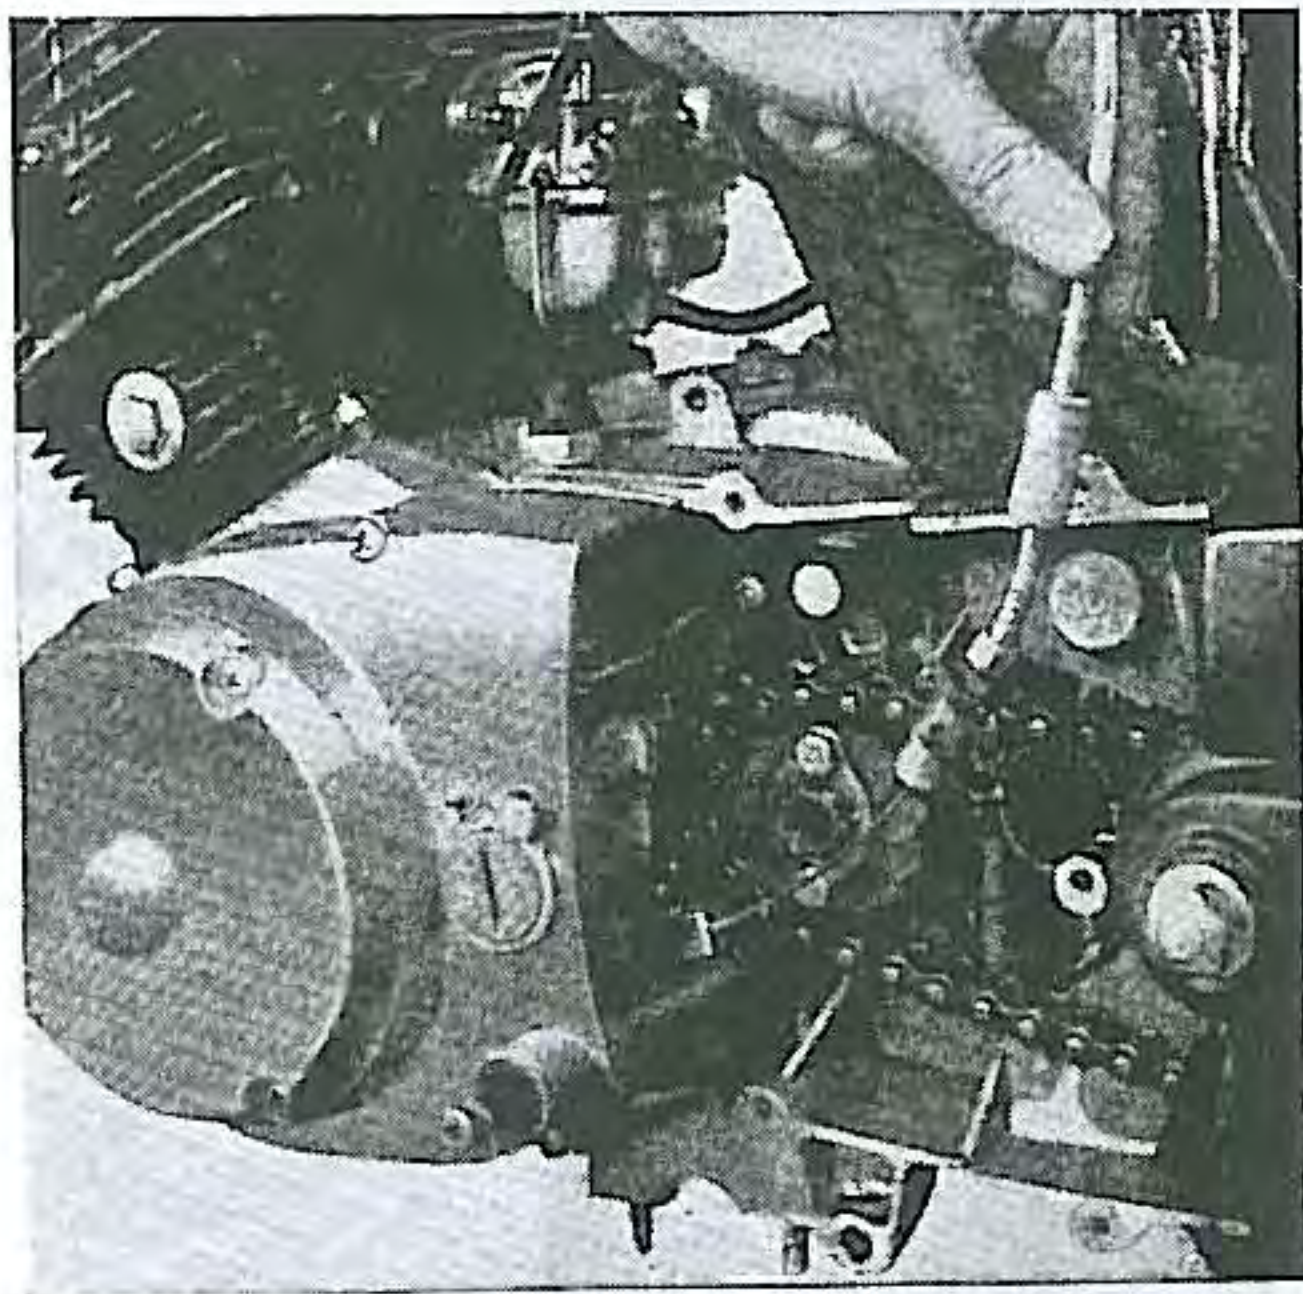
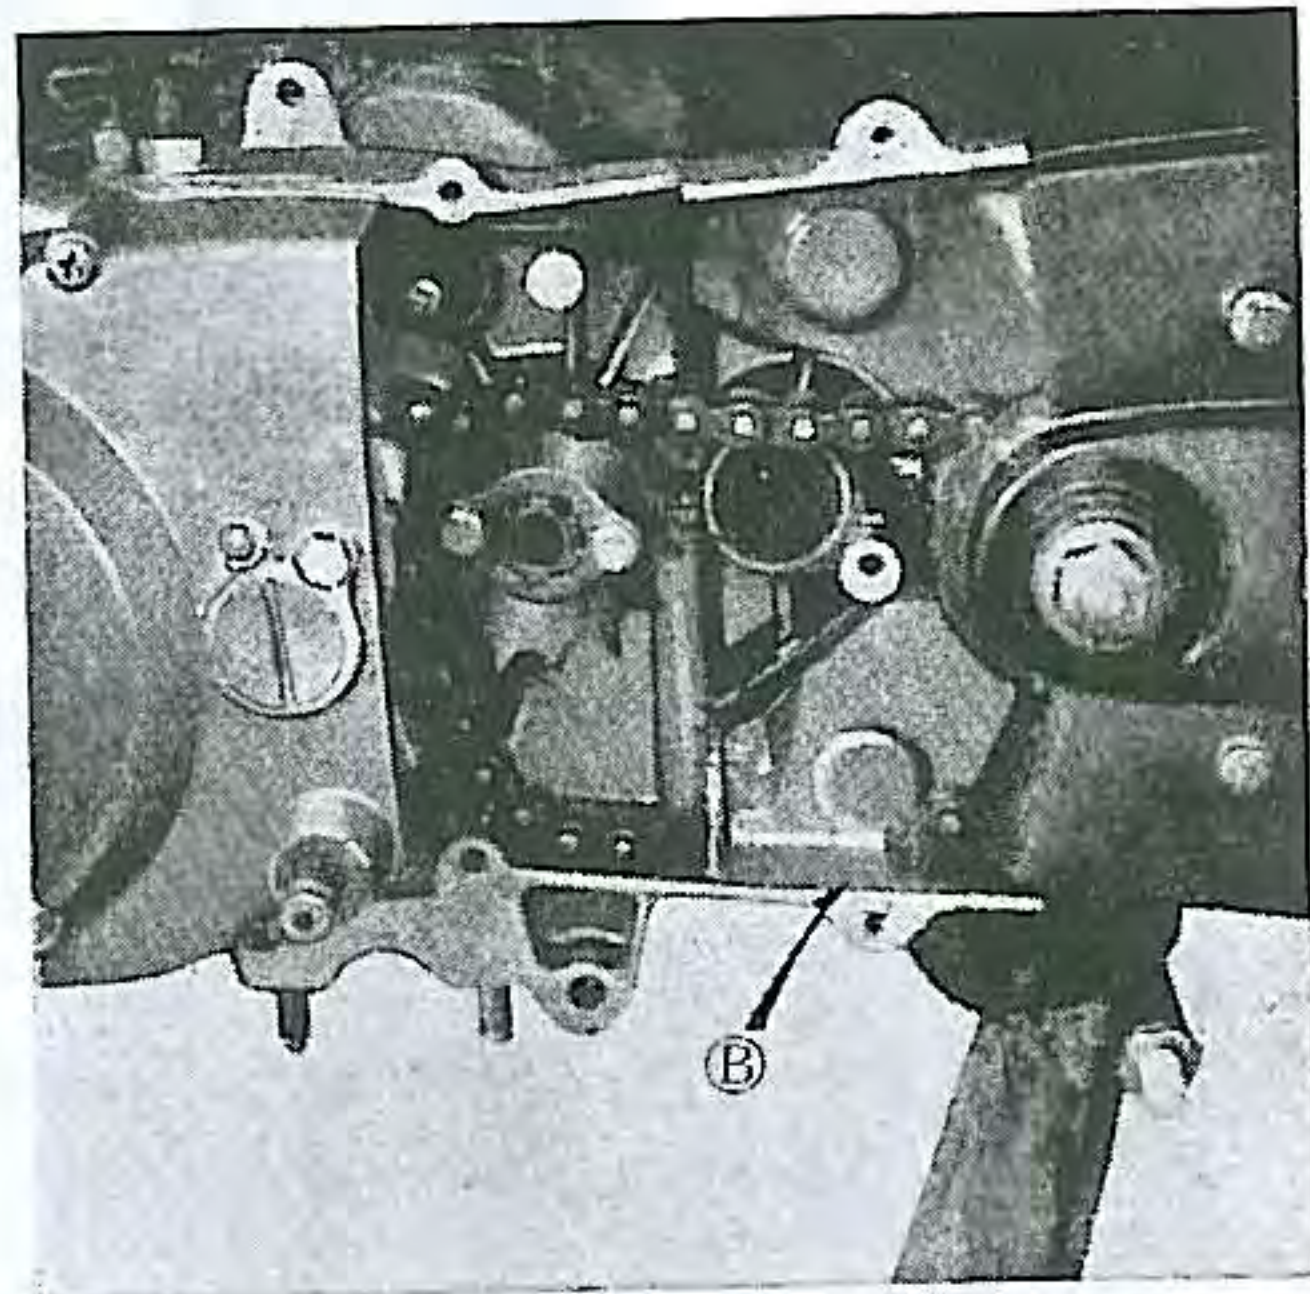
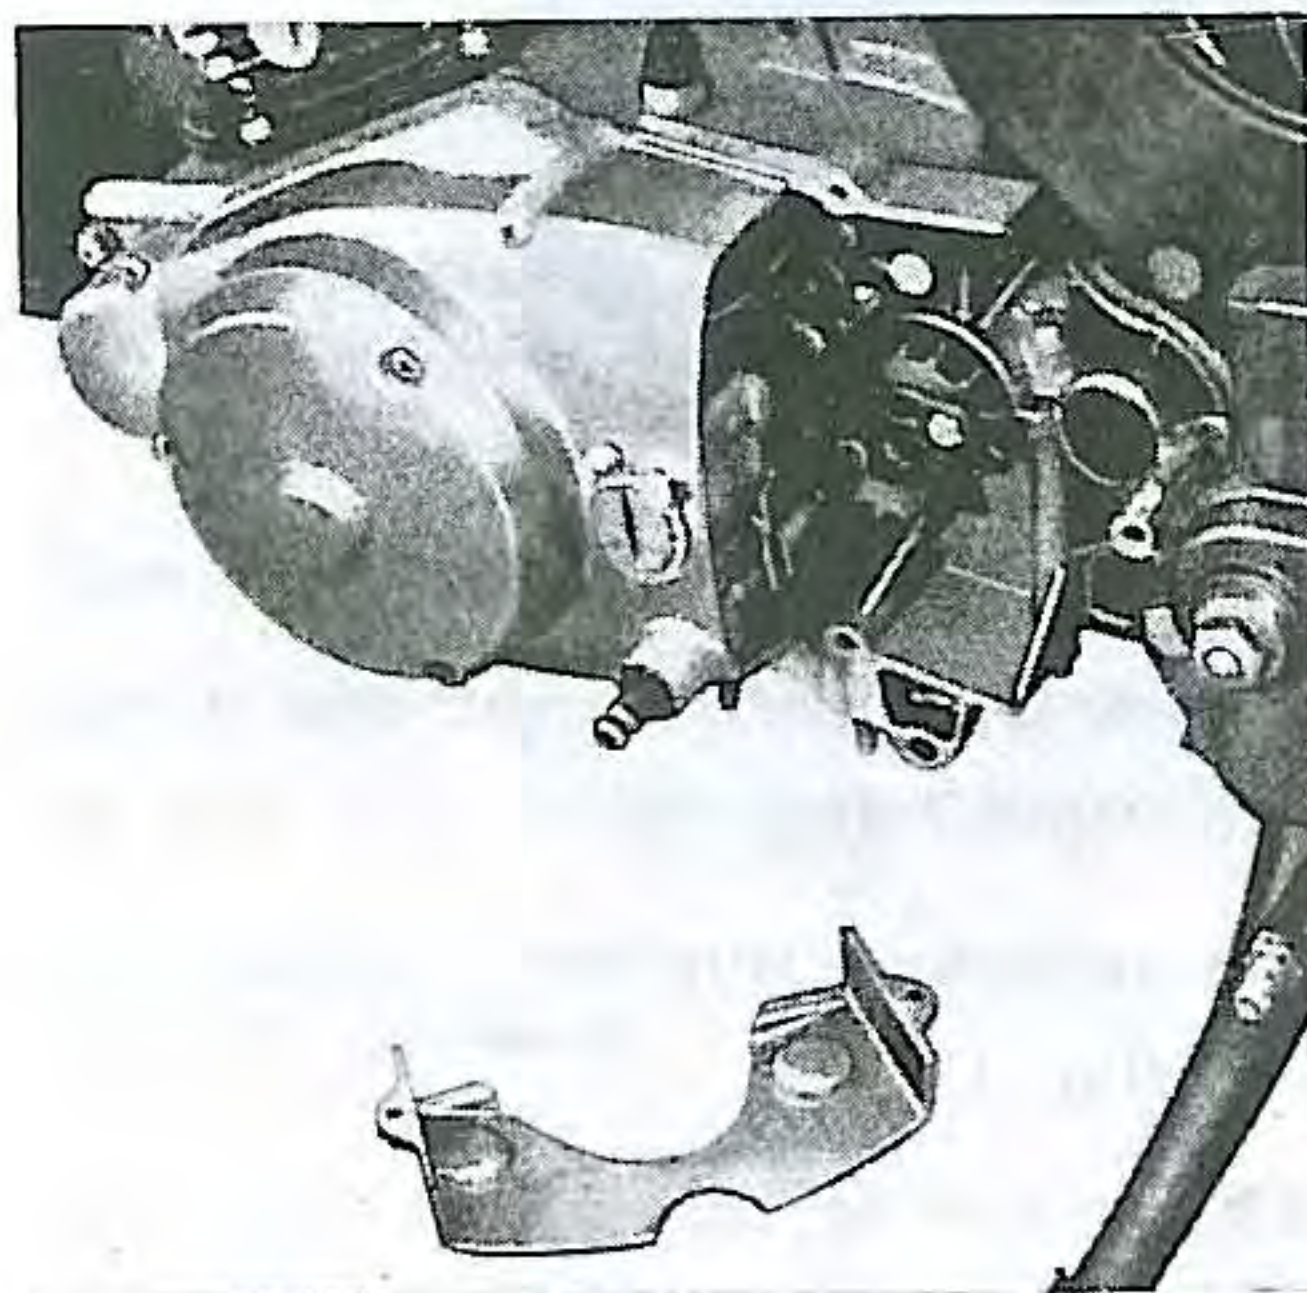

Fig. 12. Removal of chain case cover
Fig. 13. Disconnection of drive chain joint
Fig. 14. Removal of chain case cover B
- (6) Remove the chain case cover (Fig. 12) and disconnect the drive chain at the joint link (Fig. 13). Then take out the chain case cover (B) (Fig. 14) and unhook the clutch cable end from the clutch arm.